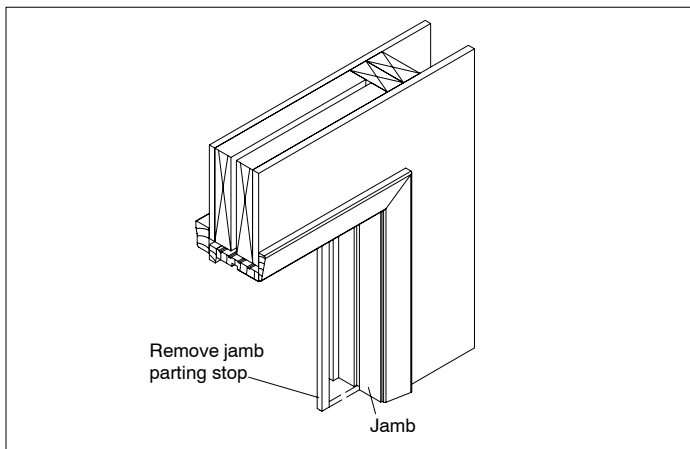

Figure 3
4. Remove the part stops from both jambs. Remove the top sash. See figure 3.